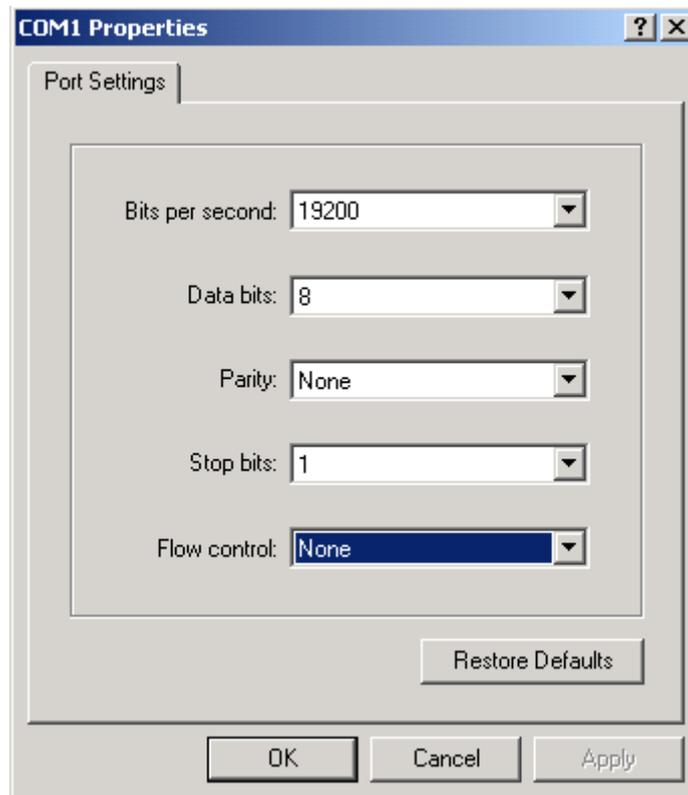

Figure 3.3
- e) select the parameters of the COM port as shown in Figure 3.3;